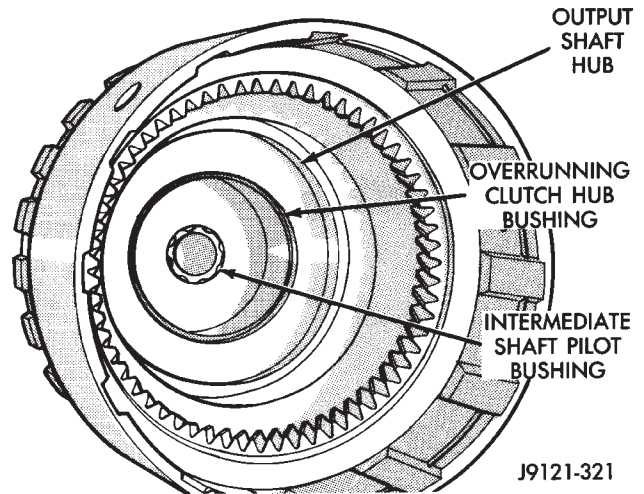

Fig. 220 Output Shaft Pilot Bushing
(1) Soak direct clutch and overdrive clutch discs in Mopar® ATF Plus 3, type 7176, transmission fluid. Allow discs to soak for 10-20 minutes.
(2) Install new pilot bushing and clutch hub bushing in output shaft if necessary (Fig. 220). Lubricate bushings with petroleum jelly, or transmission fluid.